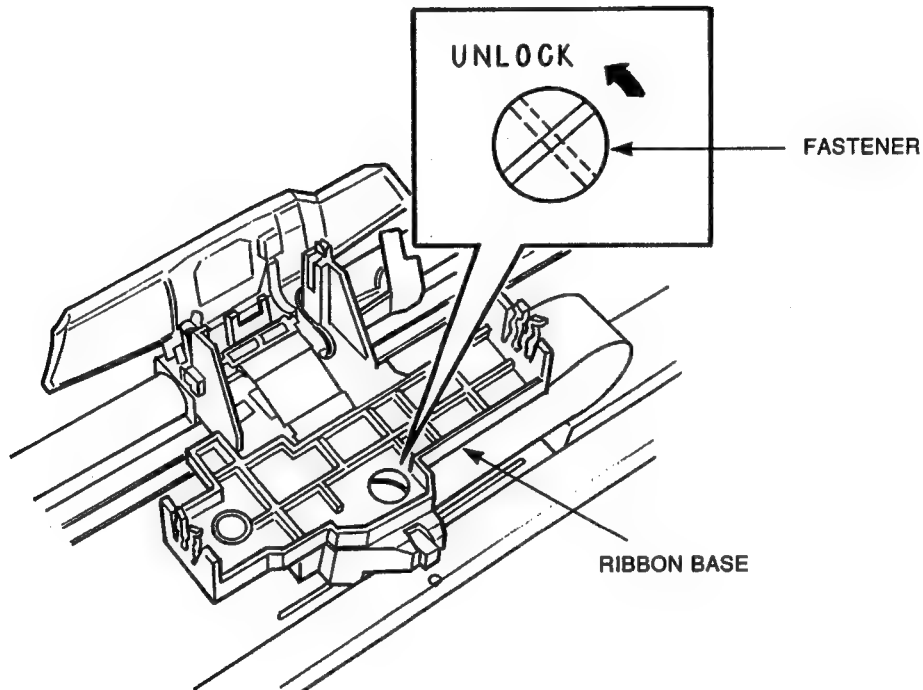

Figure 3-7 Ribbon Base Removal
1. Unlock the ribbon base by turning the fastener counterclockwise with coin (see Figure 3-7).